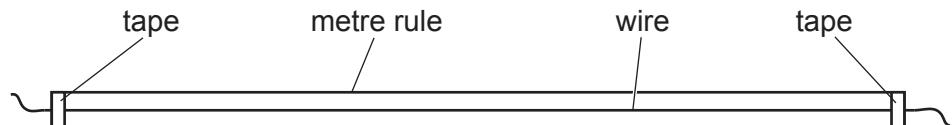

Fig. 1.2
- 5 The wire should be securely attached to the metre rule using tape, as shown in Fig. 1.2.